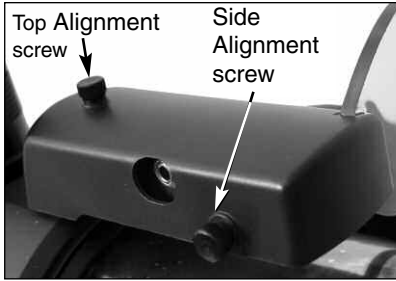

Fig. 34: The LNT Module, with alignment screws and Atomic Time Update port visible.
1. Remove the top alignment screw cap/long bolt from the LNT Module. See **Fig. 34**.